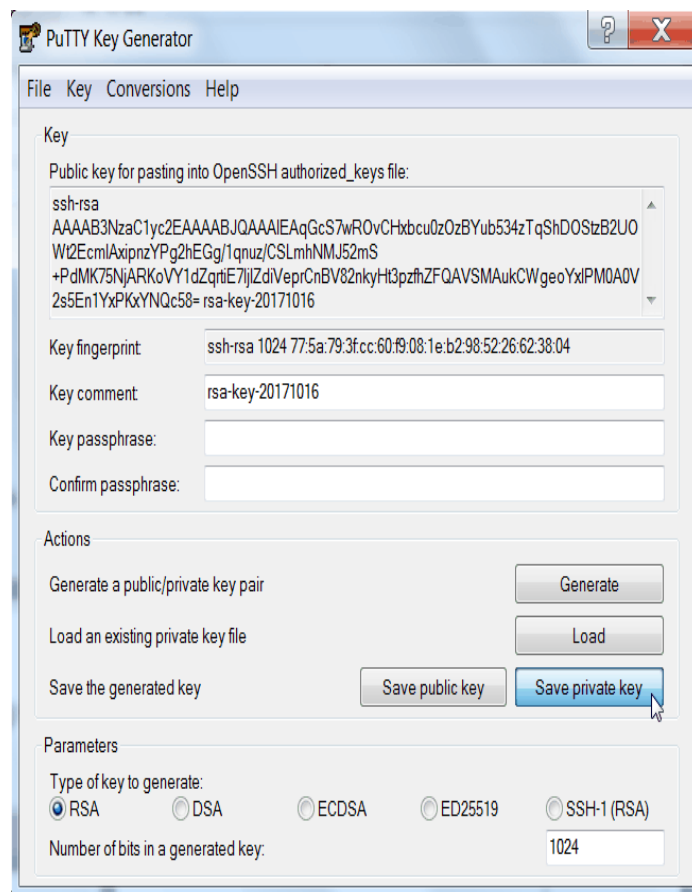

Figure A-4 Save private key
5. Click **Save private key** (Figure A-4).